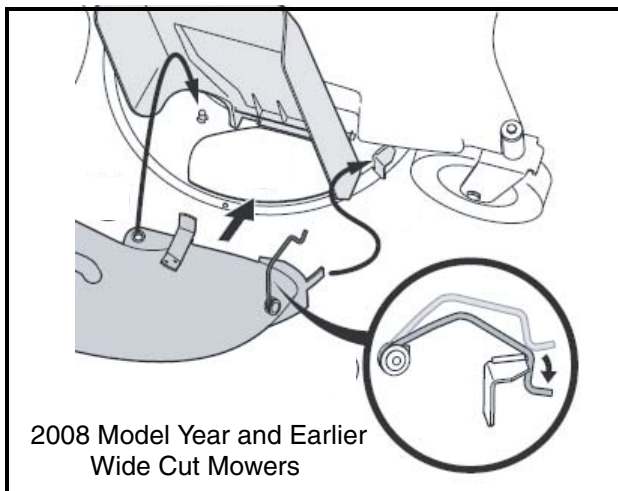

FIGURE 2
If your deck attach bracket looks like that in Figure 2, the elbow chute assembly needs to be reworked. Proceed to Step 2.
2. The parts marked with a “+” sign are required for 2008 Model Year and earlier 33" Wide Cut Mower cutting decks. These parts are located in a separate hardware pack within the elbow chute accessory carton. See Figure 2. Proceed to Step 3.